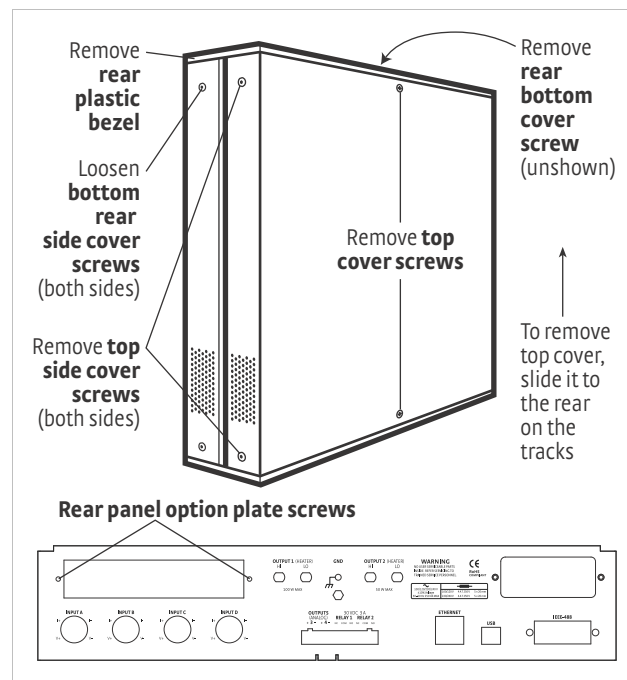

FIGURE 7-3 Cover and option plate screws (full rack)
3. Stand the unit on its face. Use the hex driver to remove the 4 screws on both sides of the top cover. Loosen the 2 rear bottom screws (FIGURE 7-3).
4. *Full rack only:* use a small Phillips screwdriver to remove the 2 top cover screws and 1 rear bottom screw (FIGURE 7-3).